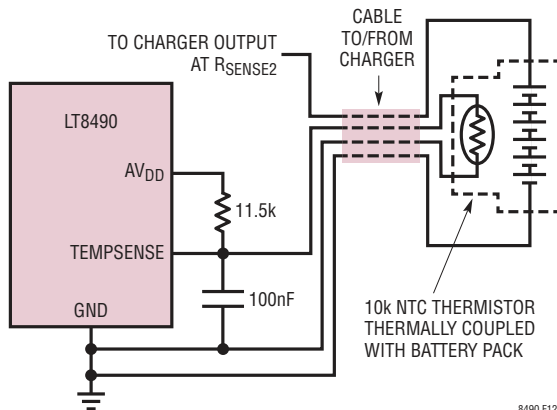

Figure 12. Battery Temperature Sensing Circuit
The LT8490 can measure the battery temperature using an NTC (negative temperature coefficient) thermistor thermally coupled to the battery pack. The temperature monitoring function is enabled by connecting a 10k Ω , $\beta = 3380$ NTC thermistor from the TEMPSENSE pin to ground and an 11.5k Ω resistor from AV_{DD} to TEMPSENSE (as shown in Figure 12). If battery temperature monitoring is not required, then use a 10k Ω resistor in place of the thermistor. This will indicate to the LT8490 that the battery is always at 25°C.
3. BATTERY DISCONNECT SENSING: The LT8490 detects if the battery and thermistor have been disconnected from the charger by monitoring the TEMPSENSE pin voltage. When the connection to the battery is severed, as shown by the arrow in Figure 12, the connection to the thermistor is also severed and the TEMPSENSE voltage rises up to AV_{DD} through the 11.5kΩ resistor. During the time when the battery is not present, the LT8490 halts charging. The charger automatically restarts the charging at Stage 0 when a battery (along with integrated thermistor or resistor) is sensed through the TEMPSENSE pin.